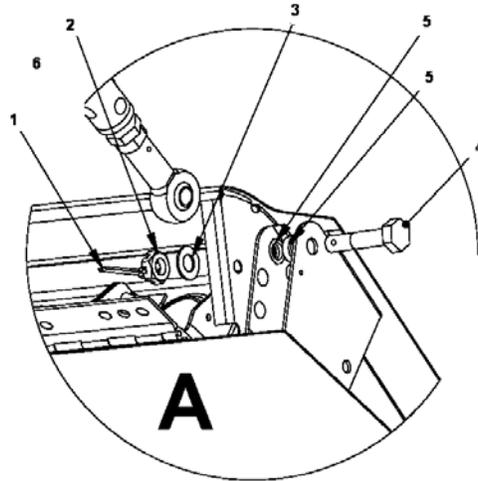

Figure 27-5 Details of the Pushrod Assembly
6. Refer to Figure 27-5 during the step. Install bolt (4), washer (3), and nut (2) securing aileron pushrod end to inboard end of aileron. Torque to a value of at least 50 in-lbs. Continue to torque to nearest castellated slot for split pin (1). Do not exceed 70 in-lbs. of torque. Install a new split pin. Refer to Chapter 20 – *Standard Practices*.